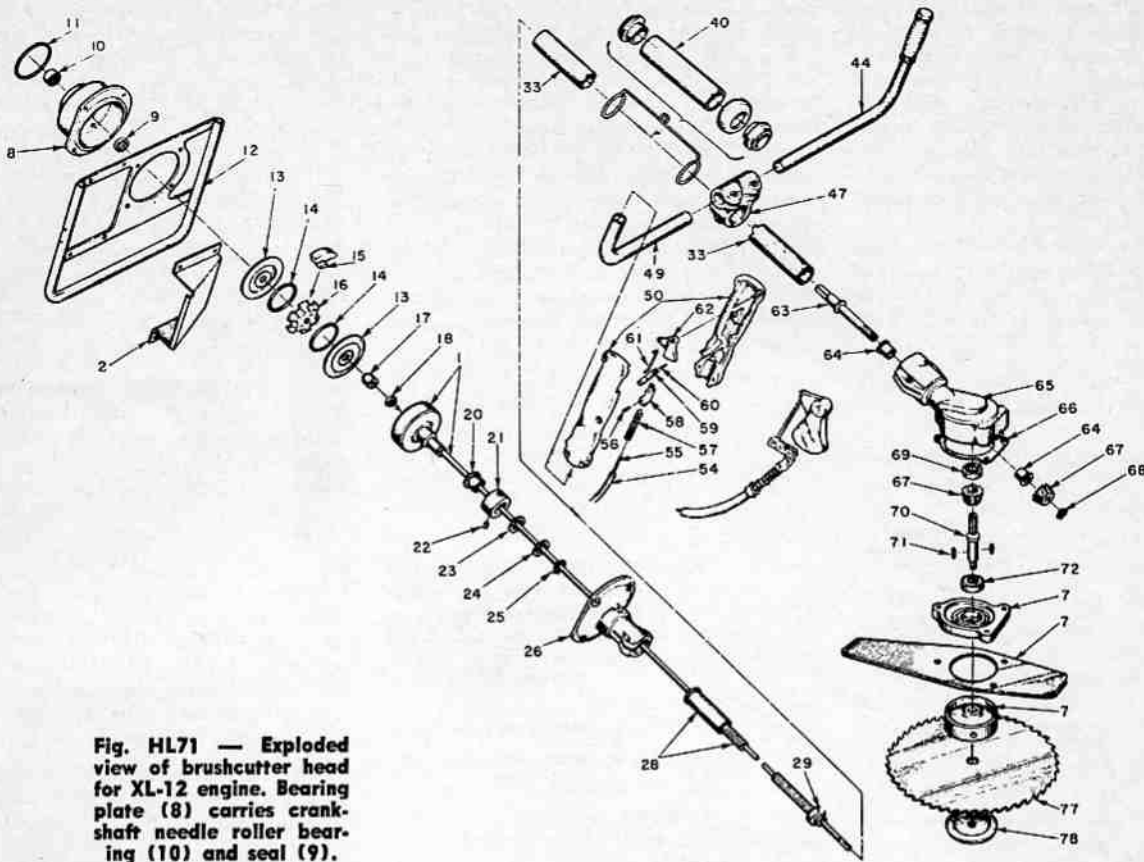

Fig. HL71 — Exploded view of brushcutter head for XL-12 engine. Bearing plate (8) carries crankshaft needle roller bearing (10) and seal (9).
**BRUSHCUTTER.** To gain access to crankshaft bearing plate (8—Fig. HL71), or engine crankshaft, proceed as follows: